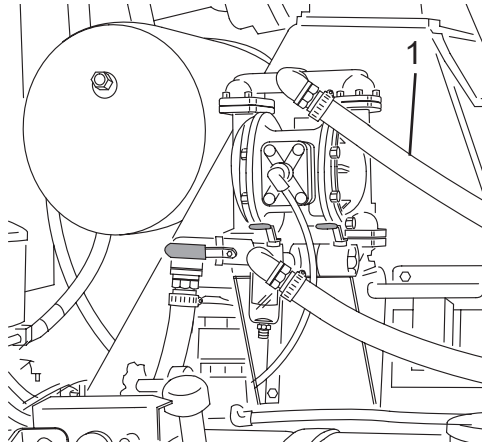

Figure 98
14. Open the drain petcock located at the lowest point in the supply hose (Figure 98, Item 1).